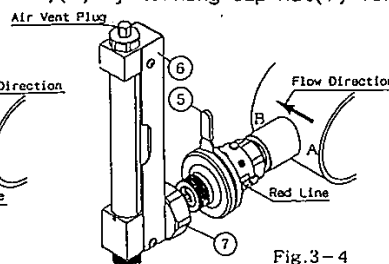

Fig.3-4
- (4) Close Cock by turning Cock Handle(5) till the Handle touches S side(SHUT:close), push Cell Block(Indicator)(6) into Pitot Tube Assy., and install Cell Block(Indicator)(6) by turning Cap Nut(7) vertically.(Fig.3-4)